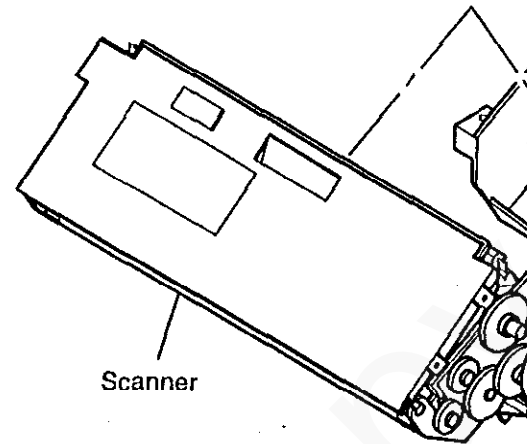

Figure 1 Removing the S
2. Remove the Scanner from the Left and Right Guides (Figure 1).